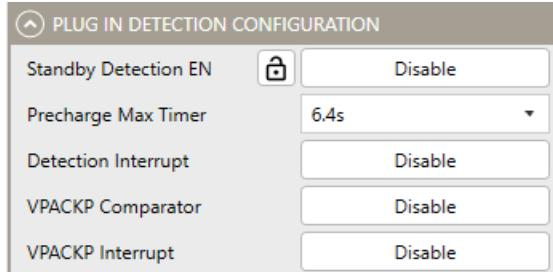

Figure 12: Plug-In Detection Configuration
4. Figure 12 shows the Plug-In Detection Configuration settings in the GUI.